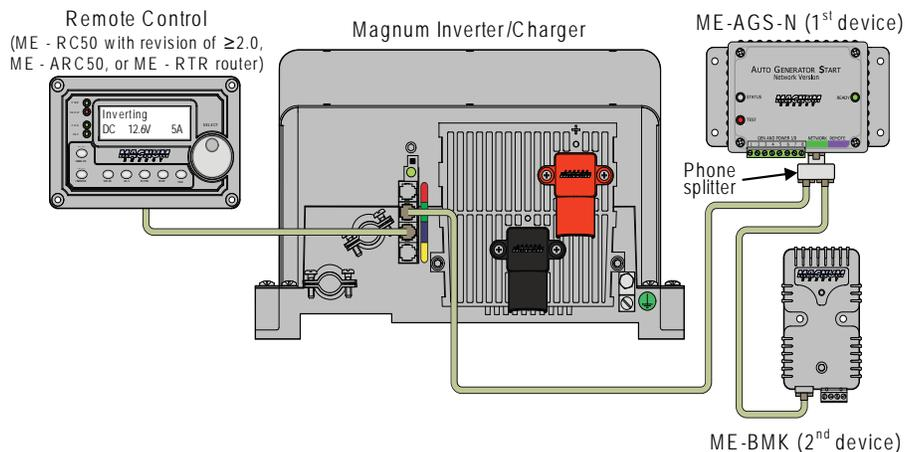

Figure 2-5, Multiple Network Devices - Daisy Chain Configuration
- **Daisy Chain Configuration** – In this arrangement, the network devices are linked in a series (see Figure 2-5). If using this configuration, the ME-AGS-N must be the first device connected to the inverter's Magnum Net or Network port – followed by the ME-BMK.